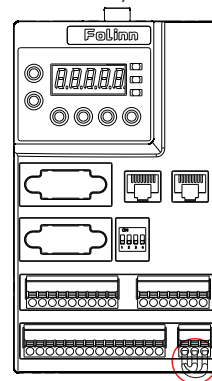
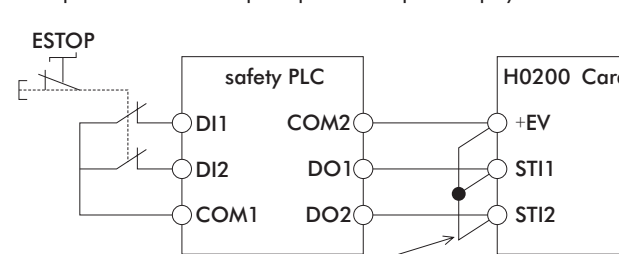

Figure 1
Figure 2
- A. The internal circuit diagram of the safety control loop is shown in Figure 1 below.
- (1) Remove the +EV, STI1, and STI2 short wires.
- (2) The wiring is shown in Figure 2 below. When normal, the ESTOP contact of the switch must be closed so that the inverter can output and not jump abnormally.
- (3) In STO mode, the switch ESTOP opens. The inverter stops output and the panel displays E0033.